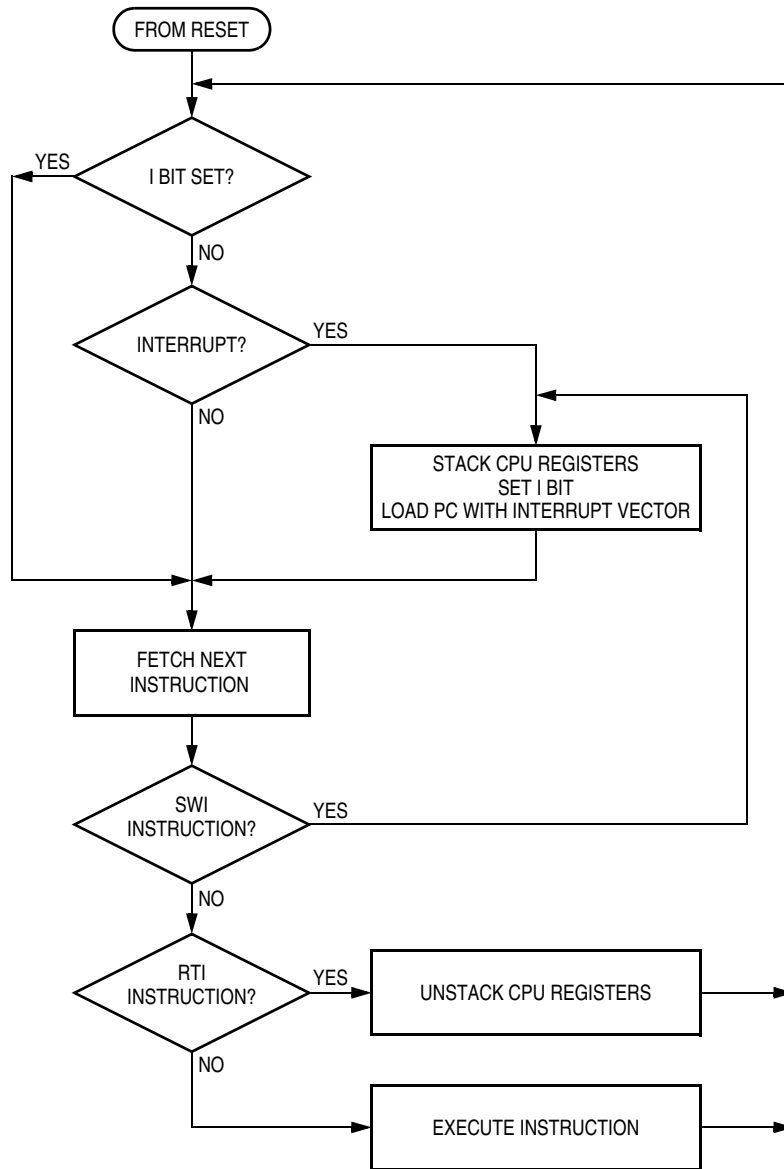

Figure 7-4. IRQ Interrupt Flowchart
NOTE: *The interrupt mask (I) in the condition code register (CCR) masks all interrupt requests, including external interrupt requests. See Figure 7-4.*